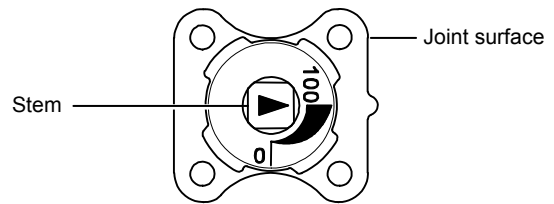

Figure 8. Valve stem pointing at 100 % (fully open) position
- 3) Adjust the stem to '100'. (See Fig. 8.)